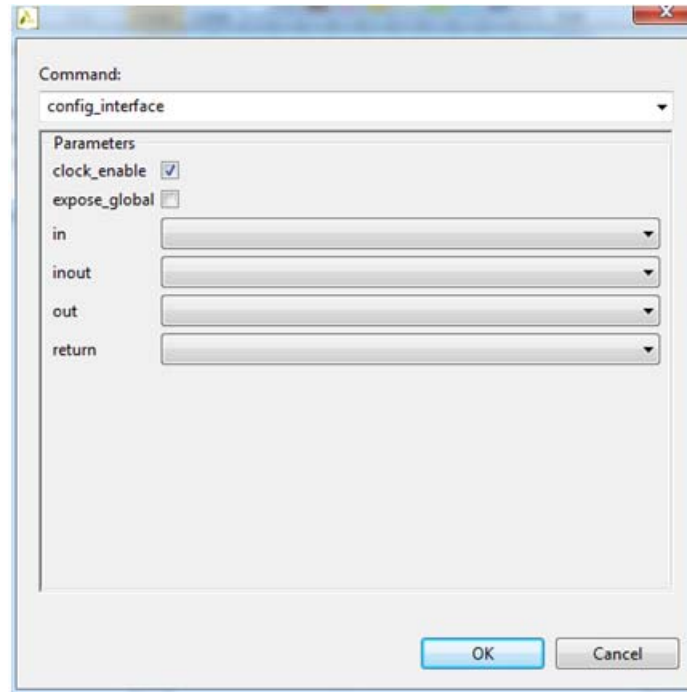

Figure 3-13: Command Configuration
- Set `config_interface` as the command (Figure 3-13).
- Click **Clock Enable** (Figure 3-13) and then click **OK**.